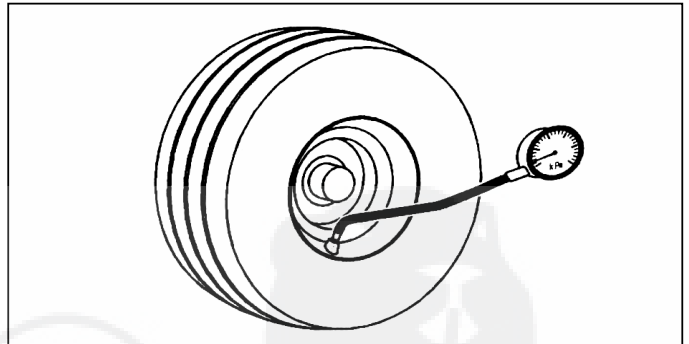

Fig. 10
2. Adjust pressure up or down if necessary (Fig.10).